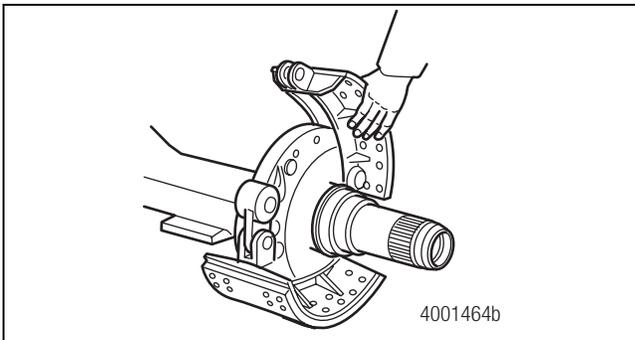
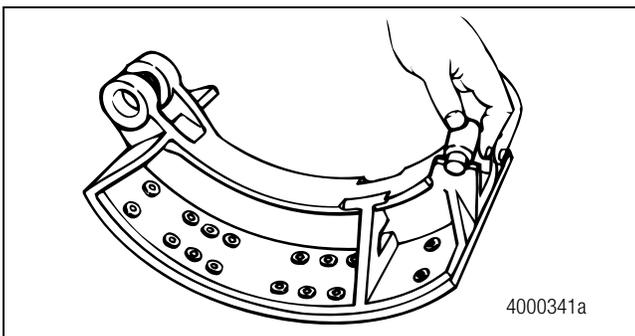

Figure 4.4
Figure 4.5
4. Remove the brake shoes. Figure 4.4. If necessary, remove the rollers. Figure 4.5.